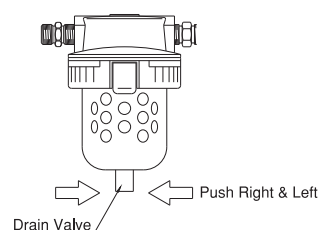

Fig.11
① Moisture in the Air Filter(Fig.11)